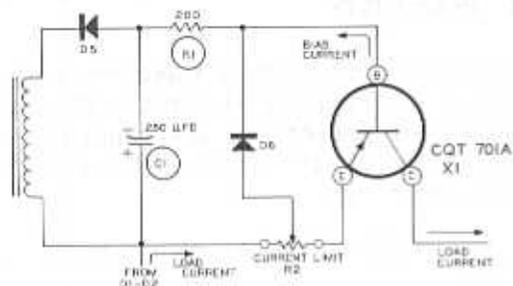

Figure 4
**CURRENT LIMITER (FIGURES 4 AND 5)**